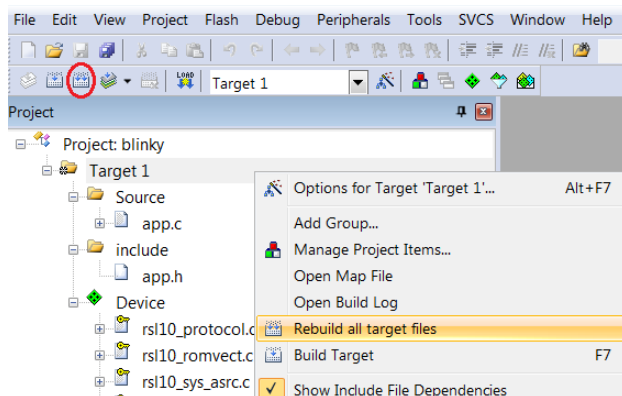

Figure 22. Starting to Build a Project in the Keil μ Vision IDE
1. Right click on **Target 1** and choose **Rebuild all target files**. Alternatively, you can use the icon shown in the Figure 22.